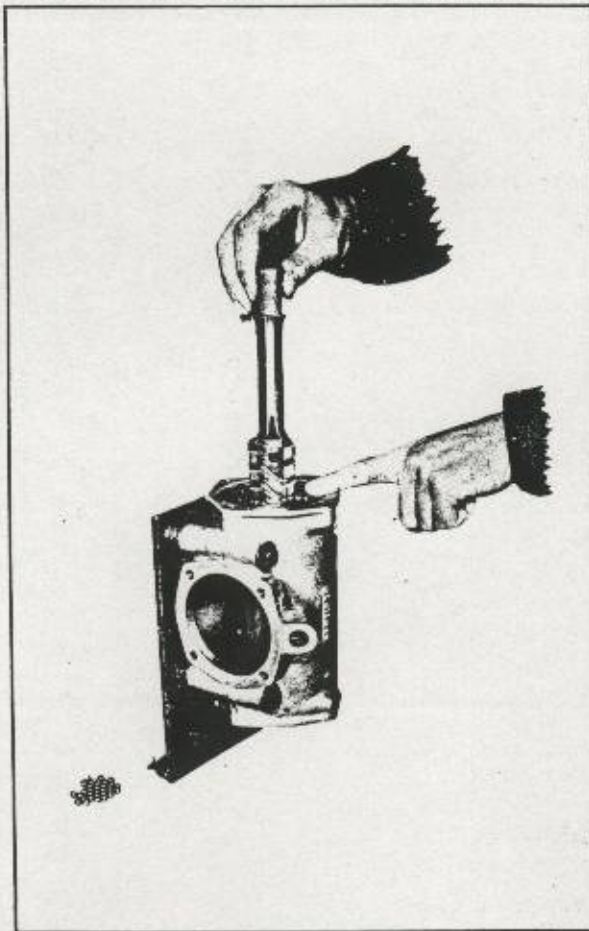

FIG. 31 - STEERING GEAR - ASSEMBLING
- Turn the recirculating housing to the vertical position with the RH housing extension to the bottom. Insert the recirculating shaft into the housing from the top and feed 19 balls into each of the second, third and fourth grooves in the shaft, pushing the shaft down into the housing as each groove becomes full (see Fig. 31).
1. Roller, steering link (4)
2. Bush, steering link (8)
10. Plate, inspection (4)